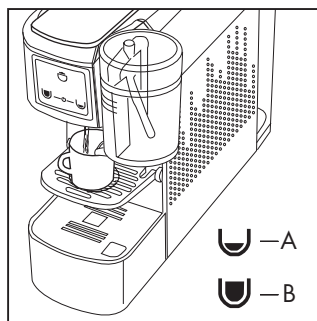

Fig. 11
Press one of the dispensing buttons (A) or (B) according to your taste (Fig. 11)